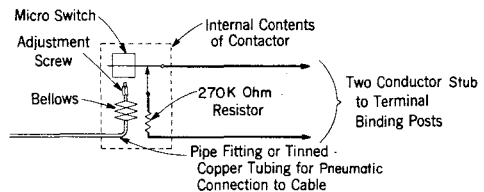

Fig. 4—Schematic of L or M Pressure Contactor With Single Resistor
2.05 On older contactors, the resistance network consists of a single 270K-ohm resistor connected in series with the switch contacts, as shown in Fig. 4. With this arrangement, the 270K-ohm resistor is placed across the subscriber line only when the contactor has operated. Therefore, it is *not possible* to verify from the test center the proper connection of an *unoperated* contactor. The procedure for converting these contactors to dual resistor operation is covered in Part 4.